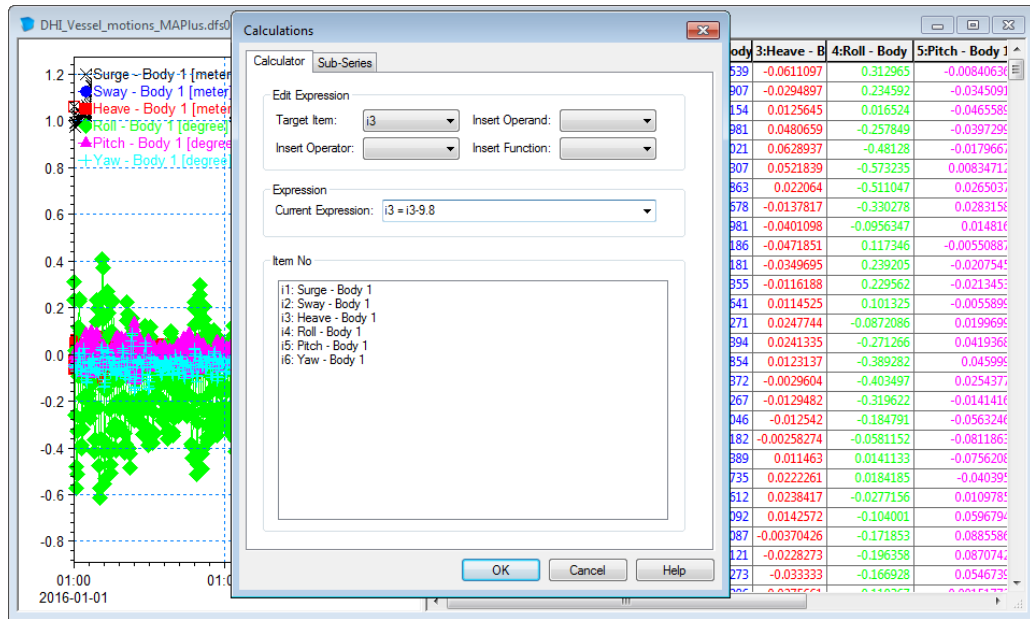

Figure 2.31 Modifying position of vessel to accommodate local coordinate system of 3Dsolid.
2. Subtract 9.8 m from the third item (Heave) to account for the Draft of the vessel (as defined in Table 2.1), see Figure 2.31. Press OK and save and close the file 'GenerateTSDData.mzt'.